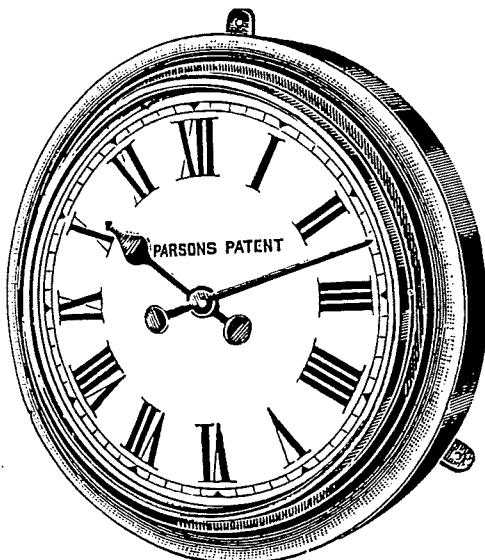
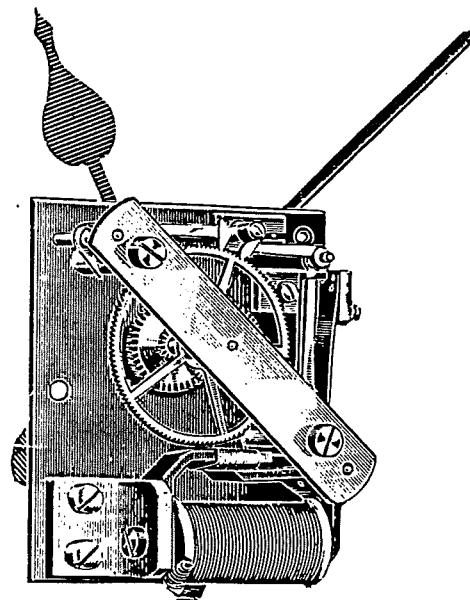

FIG. C138.
Fig. C9.
(39).—All Marine Impulse Clocks contain a Step-by-Step Mechanism similar to that illustrated at Fig. C9. When this is fixed in a case without exposed Terminals, two studs are provided at the bottom of the Clock front. These are illustrated clearly at Fig. C138.